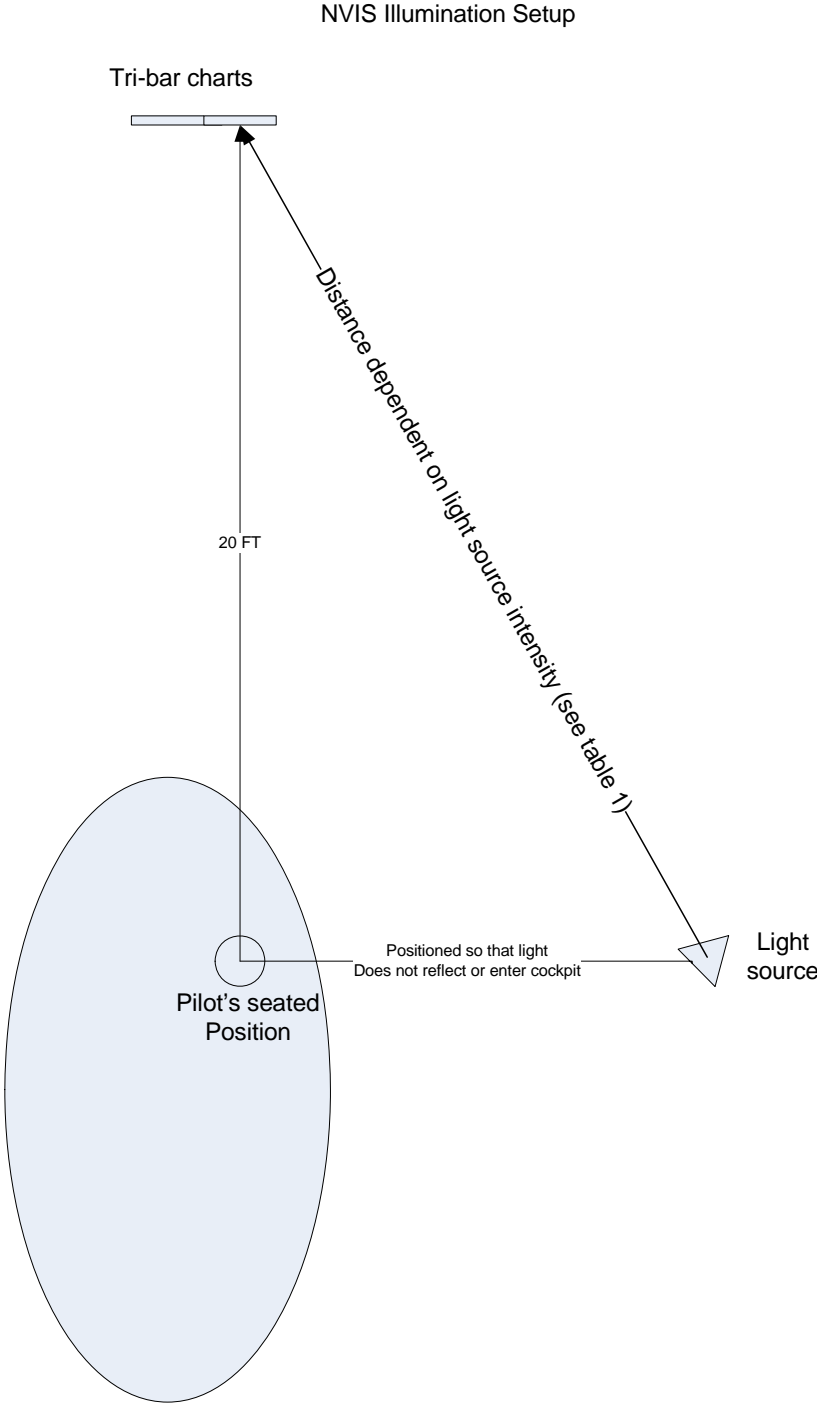

Figure 1 – Target and Illuminator Setup
(3) Provide at least two each NVG helmets with mounts for front seat evaluators. NVG hand held mounts with power supply if desired for other observers.
(4) Provide at least two each Night Vision Goggles with the same model used by the applicant for operations. Record the NVG information below.
(5) Connect appropriate ground power unit to facility power and to the aircraft GPU connector. Do not turn ground power on until instructed.
(6) Evaluator must be familiar with A/C switch positions and be able to activate correct switches during a darkened condition (BAT, NAV, COMM, Lights, operating equipment, etc.).
(7) Position a USAF 1951 Resolution Resolving Power Target Medium Contrast (Tri-Bar) Chart and USAF 1951 Resolution Resolving Power Target High Contrast (Tri-Bar) Chart 20 feet in front of and level with the pilot's eye position (see Figure 1).
(8) Use a Visual Acuity Chart Illuminator to illuminate the resolution chart. Place the illuminator at the distance discussed in the chart from Table 1. Assess whether or not the light source illuminates or casts shadows into the cockpit. If it does, move the light source to eliminate any cockpit illumination or shadows.
(15) Set the distance from the Illuminator to the Target by moving the Illuminator to the distance recorded in Step 14 (See Figure 1).
(16) Ensure the target is centered in the illuminated area and that the light does not enter the cockpit or reflect into the cockpit onto the instrument panel. This may be accomplished by observing the cockpit and instrument panel using NVGs.